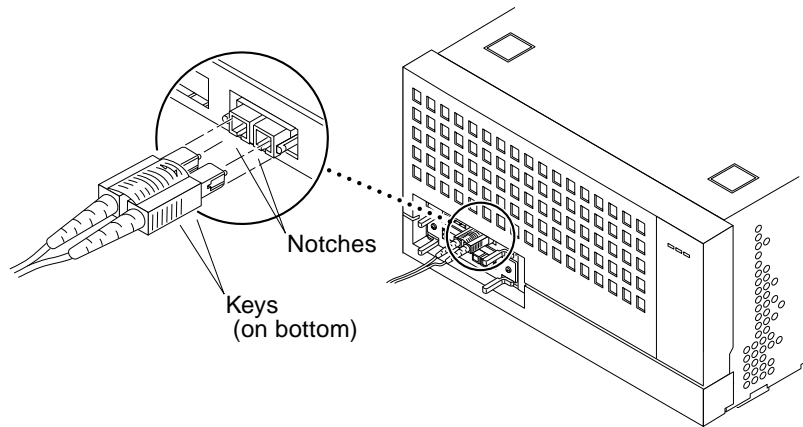

FIGURE 4-9 GBIC on the Rear Panel
5. **Connect one end of the fiber optic cable to the GBIC (FIGURE 4-9).**
Note – Fiber optic cable connectors are keyed to prevent improper insertion; they can be installed only as shown in FIGURE 4-9.